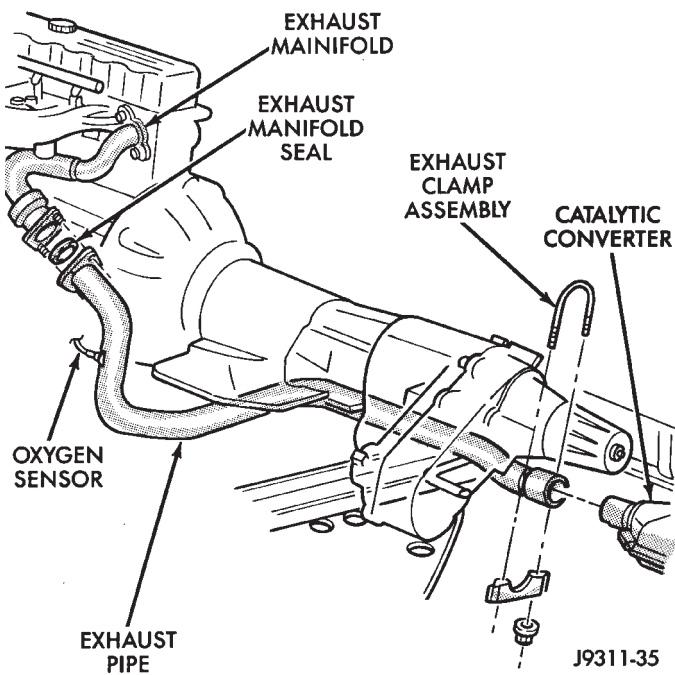

Fig. 1 Exhaust Pipe (4.0L Engine)
- (1) Raise and support the vehicle.
- (2) Saturate the bolts and nuts with heat valve lubricant. Allow 5 minutes for penetration.
- (3) Remove the oxygen sensor from the exhaust pipe (Fig. 1 or 2).
- (4) Disconnect the exhaust pipe from the engine exhaust manifold. On 4.0L engines, discard the exhaust manifold seal (Fig. 1).
- (5) Remove the exhaust clamp and nuts from the exhaust pipe and catalytic converter connection (Fig. 1 or 2). Disconnect the exhaust pipe from the catalytic converter. If needed:
- (1) Position the exhaust pipe onto the catalytic converter.
- (2) Connect the exhaust pipe hanger to the rear mount bracket insulator.
- (3) On 4.0L engines, install a new seal between the exhaust pipe and the engine exhaust manifold (Fig. 1). Connect the exhaust pipe to the engine exhaust manifold. Tighten the nuts to 31 N•m (23 ft. lbs.) torque.
- (4) Position the exhaust clamp assembly over the exhaust pipe/catalytic converter connection (Fig. 1 or 2). Tighten the nuts to 34 N•m (25 ft. lbs.) torque.
- (5) Coat the oxygen sensor with anti-seize compound. Install the sensor and tighten the nut to 48 N•m (35 ft. lbs.) torque.